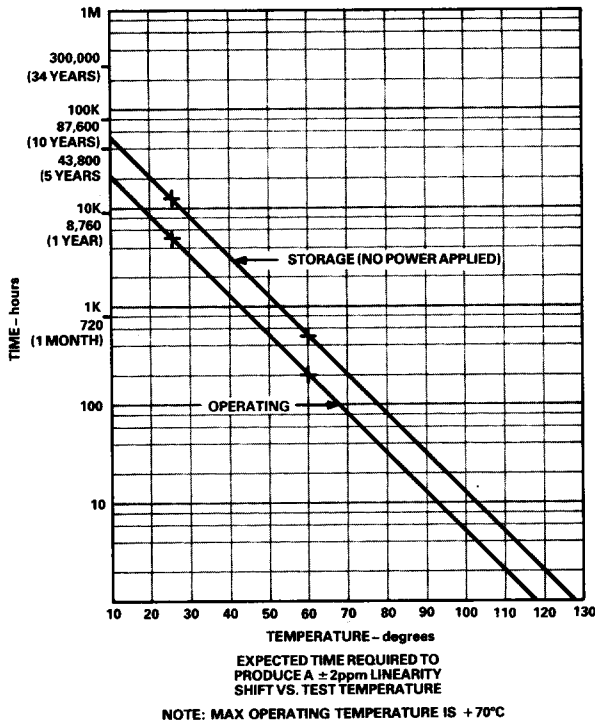

Figure 7. Nonlinearity vs. Time/Temperature
- ⁴See Figure 7 for typical long-term linearity stability vs. temperature. Also, see the BURN-IN section on page 6 for caution against preconditioning by the user.
Figure 7 shows how long it would take for the AD1139's linearity to drift $\pm 2\text{ppm}$ ($1/2\text{LSB}$) at any operating temperature. The uppermost plot shows stability under storage conditions (no power), and the lower plot shows the AD1139's operating stability (under power). The *operating vs. storage* difference is due to the 10°C temperature rise when the AD1139 is powered.
As shown in Figure 7, exposure to elevated temperatures produces an acceleration of the normal aging process. Preconditioning/burn-in employed by the user will lead to premature linearity shifts outside of the initial guaranteed specifications. The ADI warranty will not cover DACs that exhibit this type of *forced* premature specification degradation.